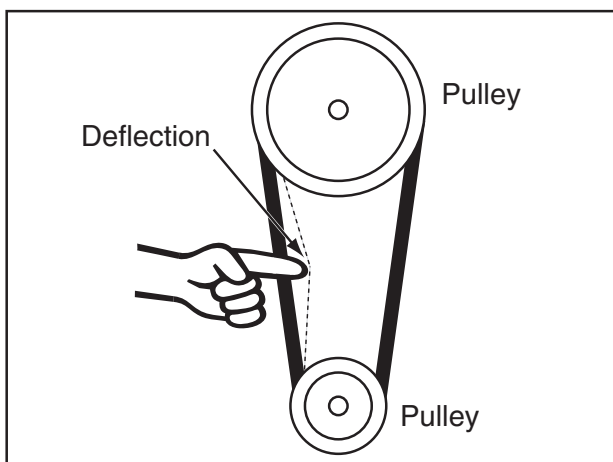

Figure 88. Testing for $\frac{1}{4}$ " deflection of the V-belts.
- b. Press down on the motor until the V-belts have about $\frac{1}{4}$ " deflection when pressed in midway between the pulleys (see **Figure 88**).
- a. Use a 12mm wrench to rotate the adjusting bolt counterclockwise (pushing the motor down) until the V-belts have about $\frac{1}{4}$ " deflection when pressed in midway between the pulleys (see **Figure 88**).